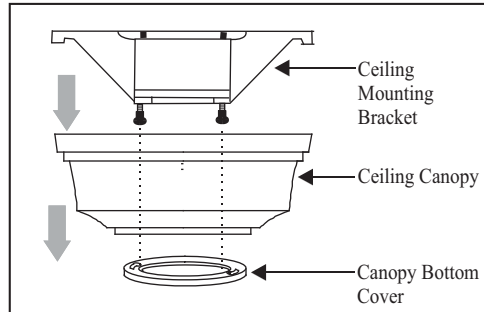

Figure 4
1. Remove the decorative canopy bottom cover from the canopy by turning the cover counter clockwise. (Figure 4)
2. Remove the mounting bracket from the canopy by loosening the two screws on the bottom of the mounting bracket a half turn from the screw head and turning the canopy counter clockwise. (Figure 4)